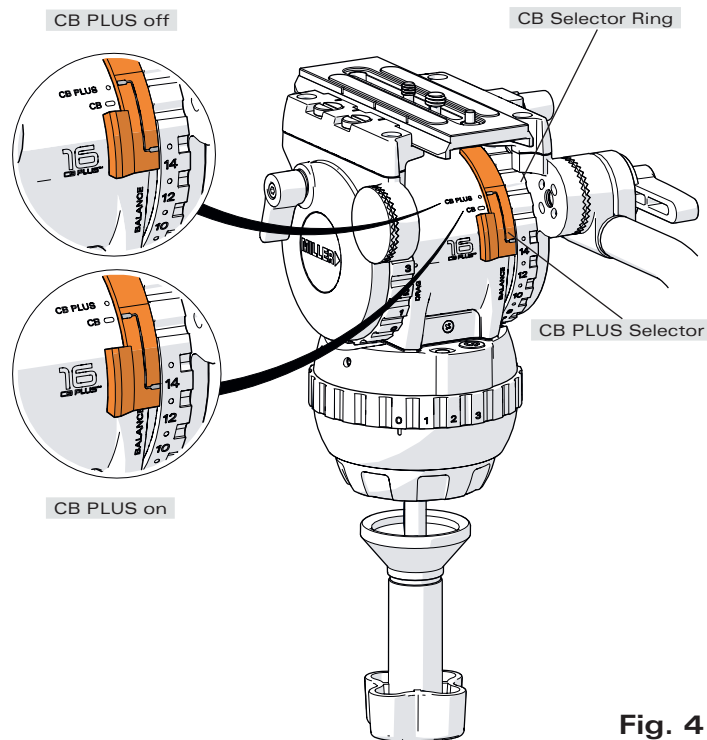

Fig. 4
The counterbalance system was designed to neutralise the effect of the camera weight when it is tilted. The CXV+ Fluid Head offers a 16 position counterbalance system which is operated with the CB SELECTOR RING and the CB PLUS SELECTOR (Fig. 4). With the CXV+ systems it is also possible to disengage counterbalance (position zero),
- 3.1 For safety it is generally better to start at a higher counterbalance position (e.g. position 14) and work your way to the correct setting, this is to reduce any chance of unwanted tilt drops (Fig. 4).